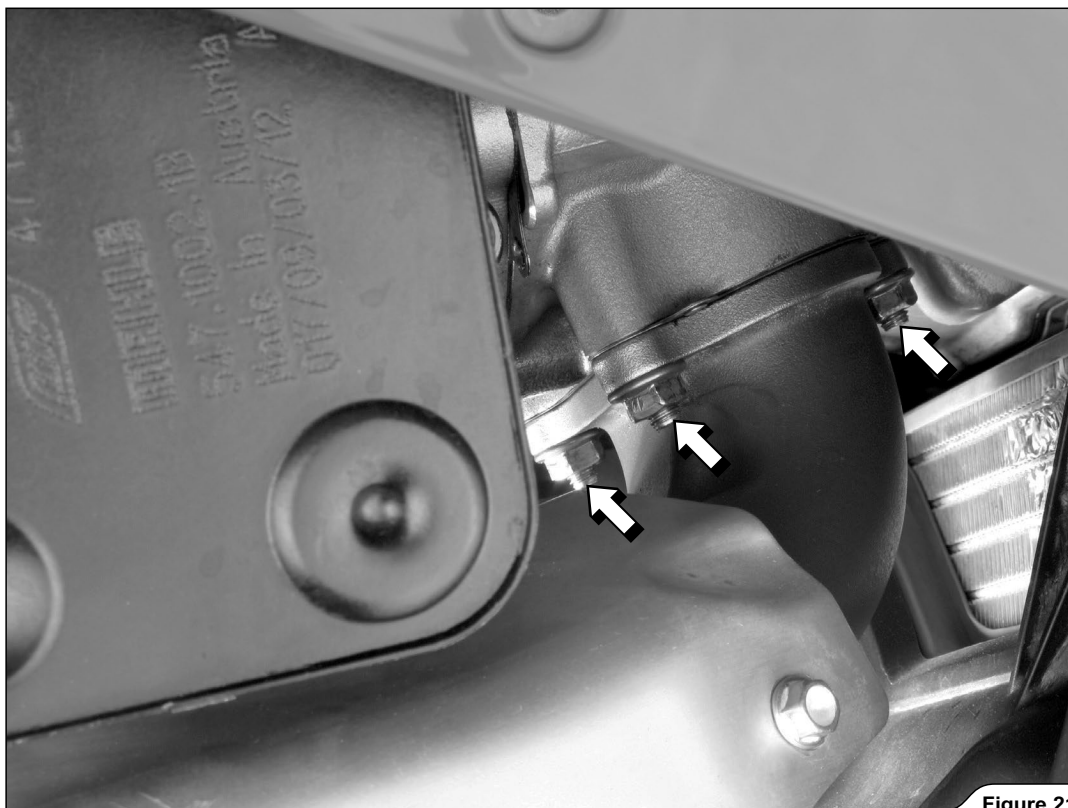

Figure 21
11. Unscrew the marked nuts and carefully remove front header pipe off the motorcycle (Figure 21).